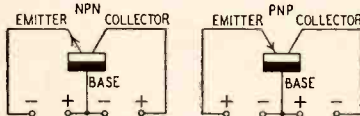

Fig. 1—Symbols for n-p-n and p-n-p transistors indicating the normal voltage polarities.
2. If there is any question concerning the polarity of connection, especially if substituting a different type number, determine whether the transistor is an n-p-n or p-n-p type (Fig. 1) by referring to the manufacturer's specifications.